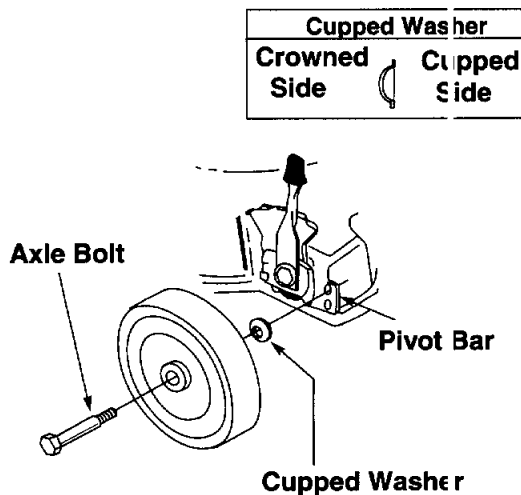

Figure 5
- Insert front axle bolt through front wheel. Place cupped washer on axle bolt (crowned side against the wheel). Thread axle bolt into top hole in the pivot bar. See figure 5. Tighten securely.